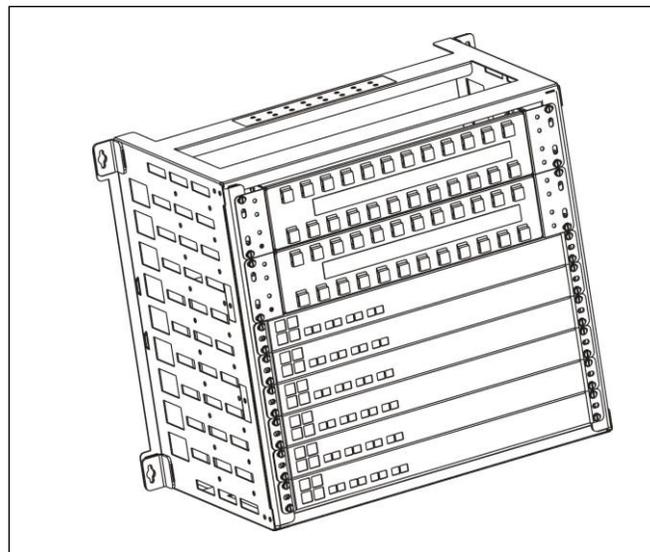
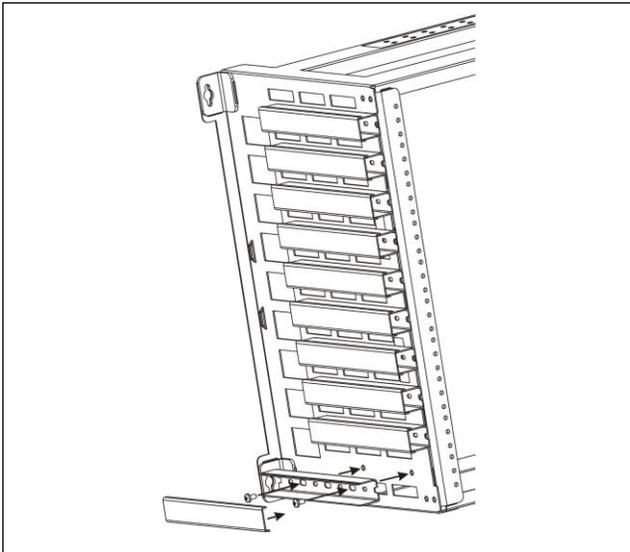

Figure 2. WR-10U w/ equipment installed (example)
Figure 8. Cable guide installation
- ① Install rack equipment with 19" hole spacing by carefully sliding the chassis through the front of the WR-10U and aligning chassis mounting ears with the threaded holes in the rails of the WR-10U frame. Insert and tighten #12-24 machine screws (customer provided) on each side of the chassis. An example of a fully populated wall rack is shown in Figure 2.
- ② Attach ground lugs associated with each equipment chassis to the threaded ground holes on the WR-10U crossbar as needed.
- ① To install a cable guide to the side of the mounting, first remove the sliding cover from the cable guide. Insert two of the #10-32 x 3/8" screws (included in CG-5 package) through the cable guide and into the threaded holes on the side of the WR-10U frame (Figure 8).